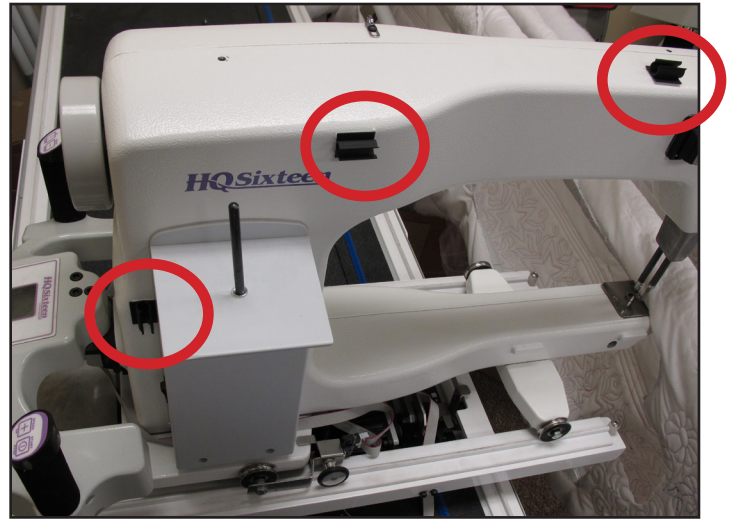

Figure 30
14. Route the new black cable harness up the back of the machine and across the top to the black box on the back of the new tablet bracket. Use the black plastic cable harness clips to hold the cable harness away from the rotating hand wheel and keep it attached to the top of the machine (Clips shown circled in *Figure 30*).